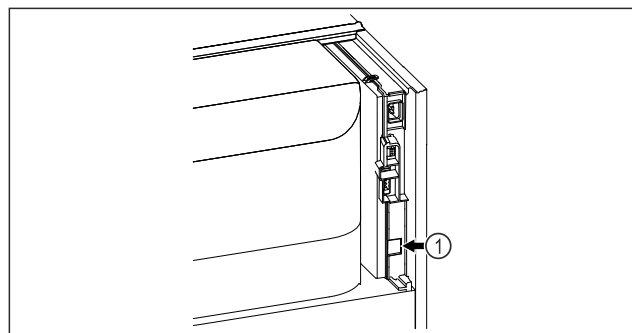

Fig. 138
- ☐ SmartModule Fig. 138 (1) is in use.